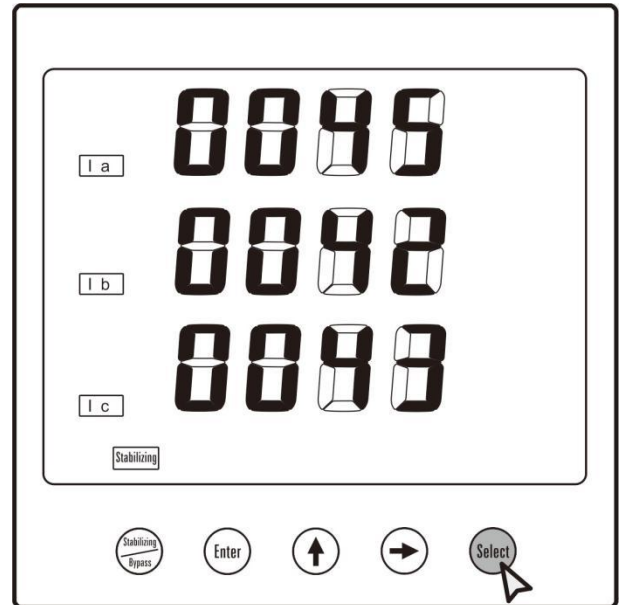

Fig. 4
④ I a (A-phase current) - I b (B-phase current) - I c (C-phase current), as shown in Fig. 4;